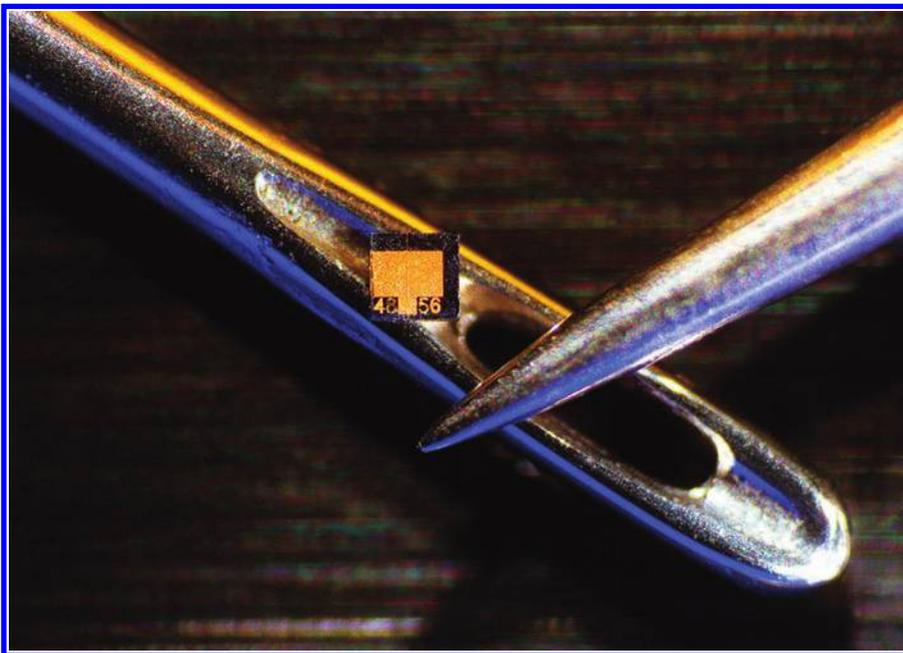

FIGURE 12.59
microelectronics (microphotonics?) fabrication techniques, with the resonant cavity built into the diode body, diode lasers can be tiny, an obvious advantage for things like portable DVD players or laser pointers (Figure 12.58). (2) This size advantage translates into major cost advantages, because a single semiconductor wafer can yield thousands of diode lasers, just as it does with their microelectronic IC cousins (Figure 12.59). (3) The diode laser requires only current to make it work—no messy flash lamps—and hence it integrates very well with conventional microelectronic circuits and systems requiring a small form factor. Any downside to diode lasers? You bet; life is full of trade-offs! (1) The output power of diode lasers is fairly limited (these are not the lasers that punch holes through inch-thick metal slabs!). (2) We burn quite a bit of current to produce the lasing; meaning diode lasers are not terribly efficient. (3) Once we fix the material we fix the wavelength, so tuning the wavelength of a fabricated diode laser is not so simple. Finally, (4) edge emission is the rule here, and the diodes have to be cleaved to produce the requisite resonant cavity, so building any kind of laser that emits from the *surface* of the semiconductor wafer is tough (there are good reasons for wanting to do this—can you offer some insight? If not, stay tuned.). To attempt an end-around to solve these types of diode laser limitations,